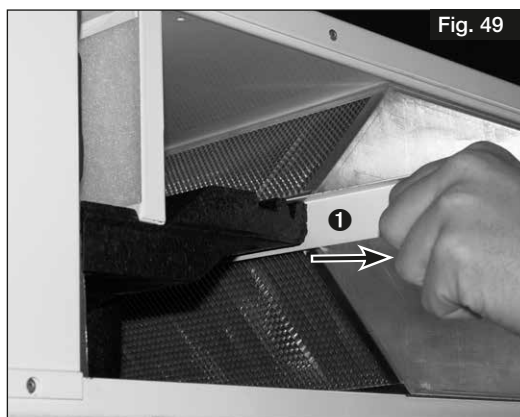

Fig. 49
2. Pull out sealing strip **1** (see Fig. 49).